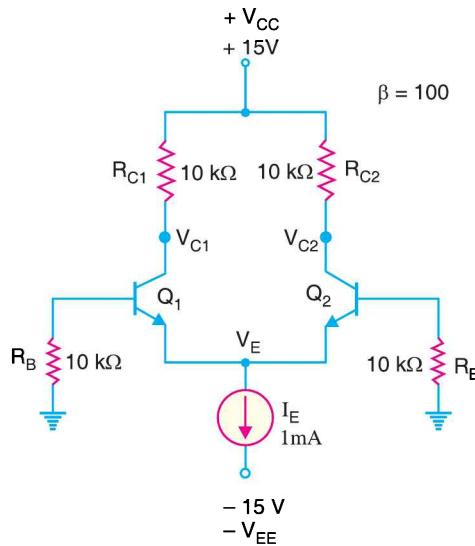

Fig. 25.18
**Example 25.9.** Most differential amplifiers are biased with a current source as shown in Fig. 25.18. Find the bias currents and voltages.